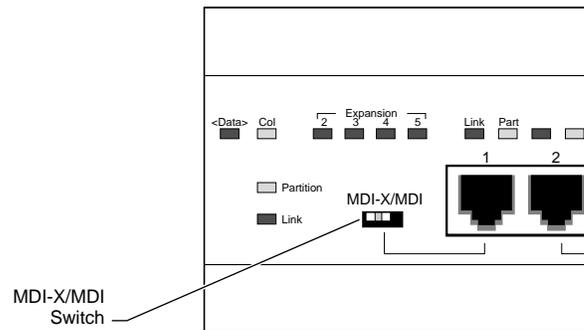

Figure 3-6. MDI-X/MDI Switch Set to MDI-X
- 2. Make sure the MDI-X/MDI Switch on the Model 28xx is set to MDI-X (see Figure 3-6).**